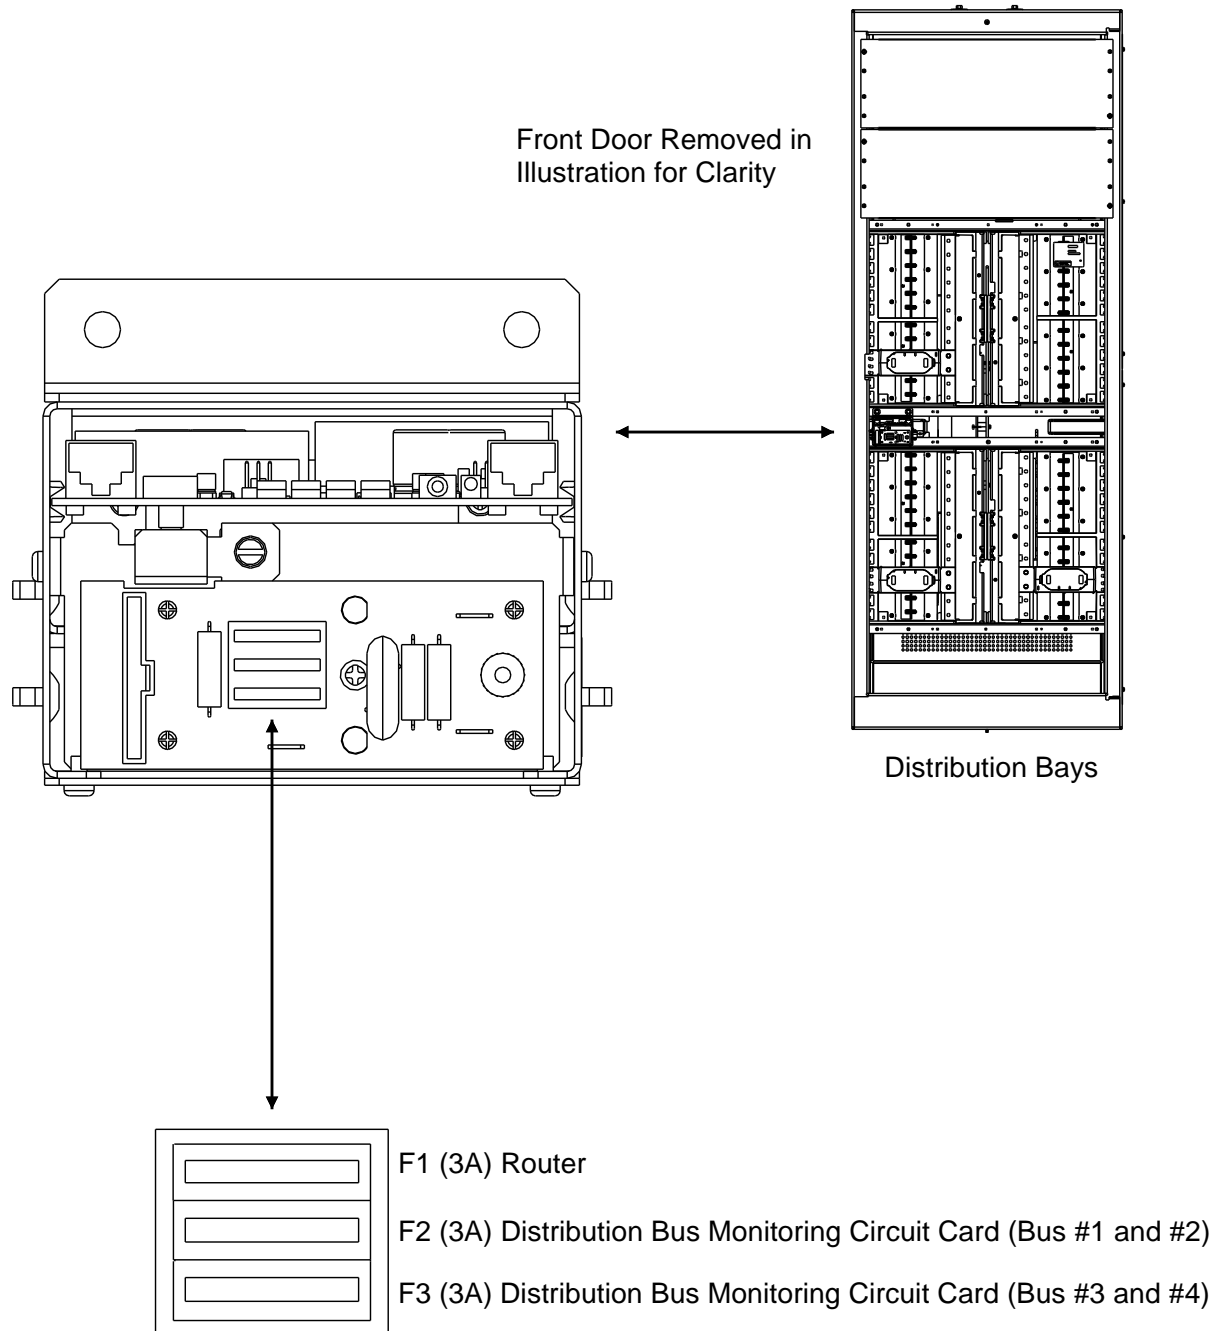

Figure 6-8
- 5) Remove the fuse which supplies input power to the Router circuit card. Refer to Figure 6-7 and Figure 6-8 for location.
- 11) Replace the fuse which supplies input power to the Router circuit card. Refer to Figure 6-7 and Figure 6-8 for location.
- 5) Remove the fuse that supplies input power to the Distribution Bus Monitoring circuit card. Refer to Figure 6-7 and Figure 6-8 for location.
- 10) Replace the fuse which supplies input power to the Distribution Bus Monitoring circuit card. Refer to Figure 6-7 and Figure 6-8 for location.
If an alarm, reference, or control fuse opens; replace with the same type and rating, or equivalent. Refer to SAG582140000 for fuse replacement part numbers. Refer to Figure 6-7 and Figure 6-8 for alarm, reference, and control fuse locations.